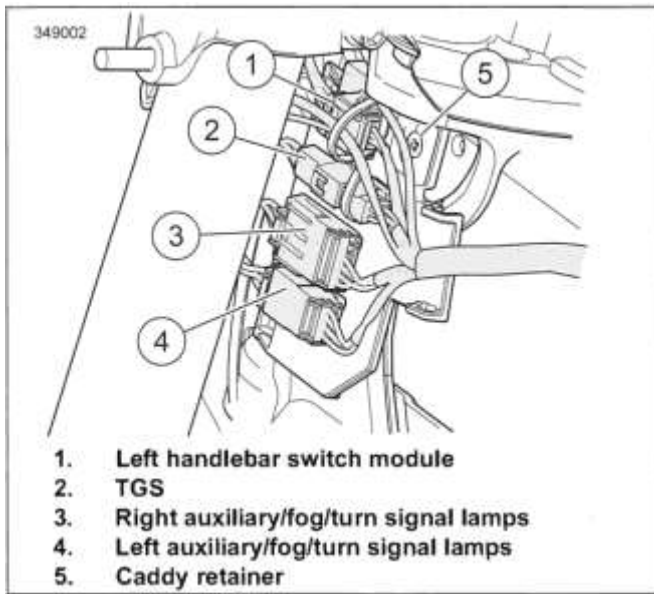

Figure 3-141. Left Side Connectors: Road King Models
2. See Figure 3-141. Separate left handlebar switch (1) and TGS (2) connectors.
8. See Figure 3-141. Connect left handlebar switch (1) and TGS (2) connectors.